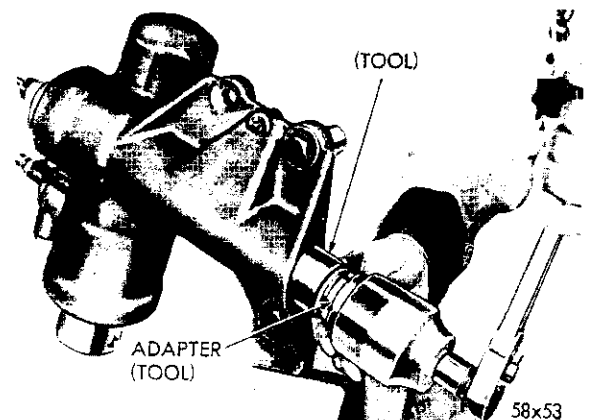

Fig. 45—Installing the Gear Shaft Oil Seal
(1) Install the gear shaft bearings into the housing with driver, Tool C-3333 (lettered end of the bearings against the driver tool). Drive the bearings to $\frac{1}{8}$ inch below the edge of the counterbore.
(2) Install the gear shaft oil seal into the housing (lip of seal toward needle bearing) with adapter SP-3052 and Tool C-3350 as follows:
- a. Place the adapter against the seal and thread the tool nut on the threaded end of the gear shaft (Fig. 45).